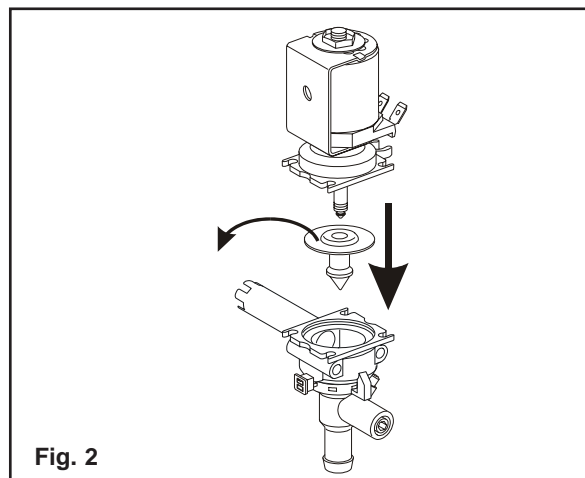

Fig. 2
4. Separate lower valve assembly from solenoid and remove diaphragm. (Fig 2)